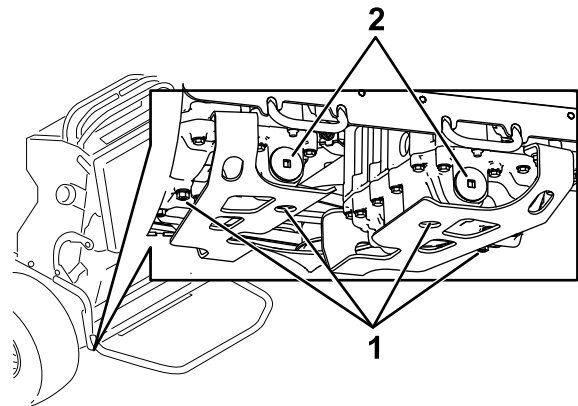

Figure 61
5. Locate the drain plug in the bottom of each transmission and place a drain pan under the plugs (Figure 61).